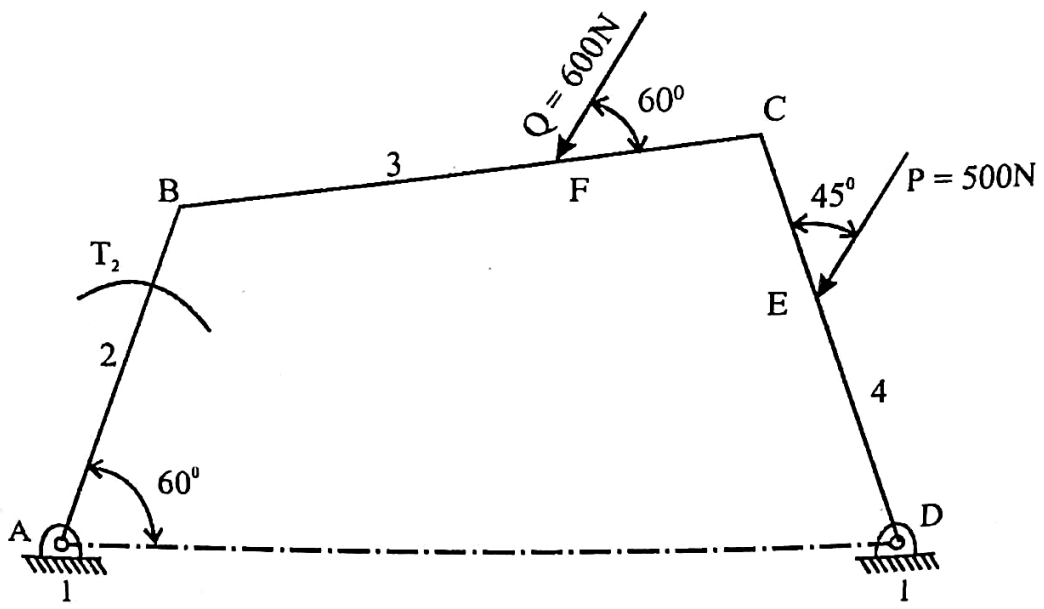

Fig. 5b
- b. A four bar mechanism under the action of two external forces is shown in Fig. 5b. Determine the torque to be applied on the link AB for static equilibrium. The dimensions of the links are AB = 50 mm, BC = 66 mm, CD = 55 mm, CE = 25 mm, CF = 30 mm, BAD = 60° and AD= 100 mm 14 L2 CO4 PO2